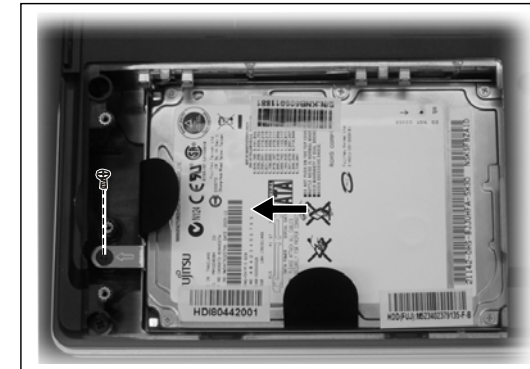

Figure 2-9 Remove HDD module
3. Remove one screw and slide the HDD module out of the compartment. (Figure 2-9)